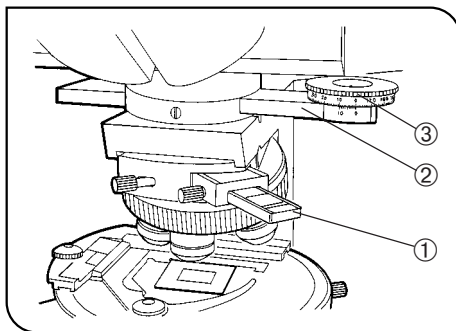

Fig. 19
When Using the Intermediate Attachment for orthoscopic observation (U-OPA) (Figs. 19 & 20)
1. Fully insert the alignment polarizer ①, provided with the U-OPA into the test plate adapter (U-TAD). Tighten its clamping knob. (Fig. 19)
3. Insert the rotatable analyzer (U-AN360P-2) ② into the analyzer slot on the intermediate attachment. Engage the analyzer, loosen the clamping screw and set the analyzer's rotation dial ③ to 0°. (Fig. 19)